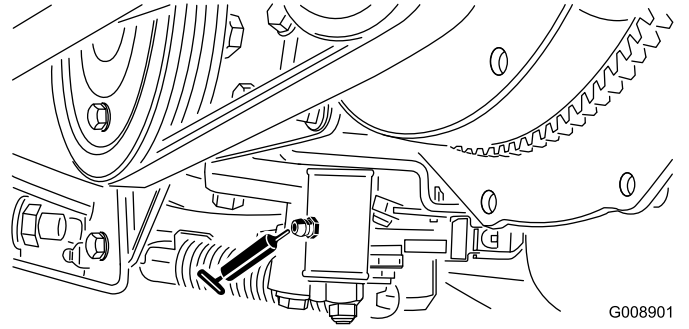

Figure 43
- Neutral adjust mechanism (Figure 43)